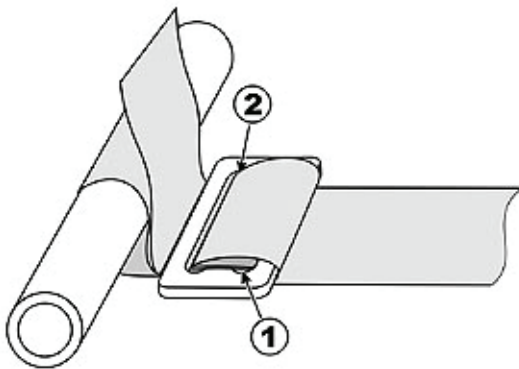

Figure 4
7. fold strap end back and run it through slot 2 again (Figure 4).